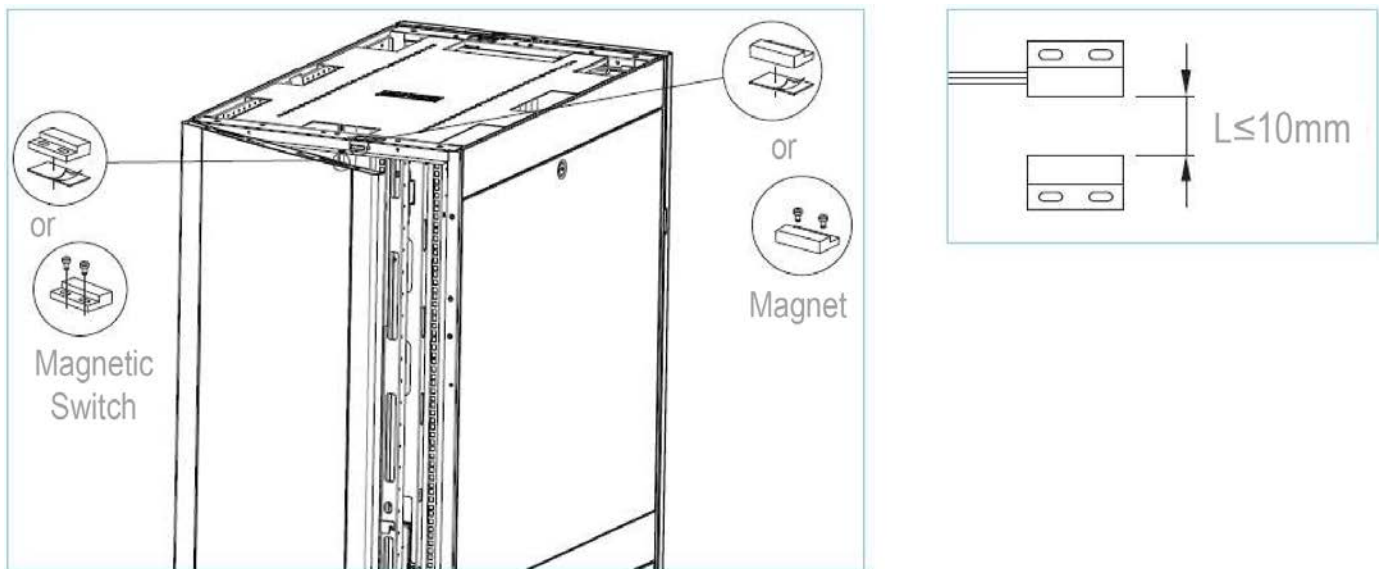

Figure 1: Door Switch Sensor's Magnetic Switch and Magnet Placement
1. Attach the Door Switch Sensor's magnet to the top corner of the cabinet using double-sided tape, screws, or optional bracket hardware. See Figure 1.
2. Attach the Door Switch Sensor's magnetic switch to the top corner of the cabinet door opposite the magnet using double-sided tape, screws, or optional bracket hardware. See Figure 1. Route and secure the cable to the cabinet door using the included adhesive backed mount and cable ties as needed.